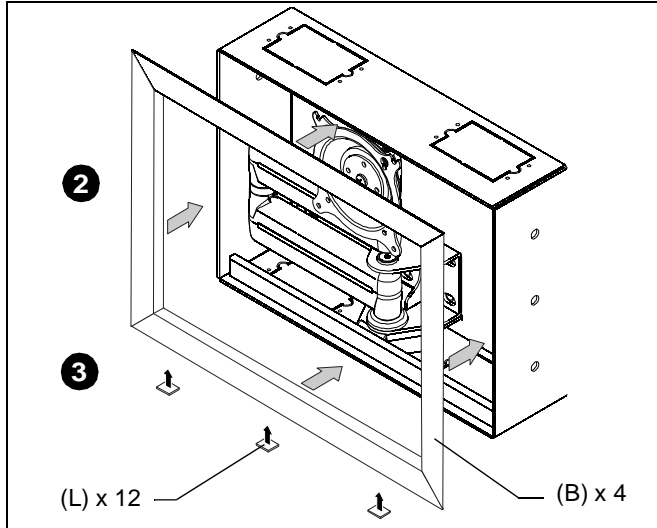

Figure 11
1. Remove paper covering adhesive and affix three tape squares (L) to inside lower flange of each trim piece (B). (See Figure 11)
2. Orient trim pieces (B) as shown in figure below. (See Figure 11)
3. Remove paper covering adhesive back from tape squares (L) on trim and press trim (B) against inner wall of box. (See Figure 11)